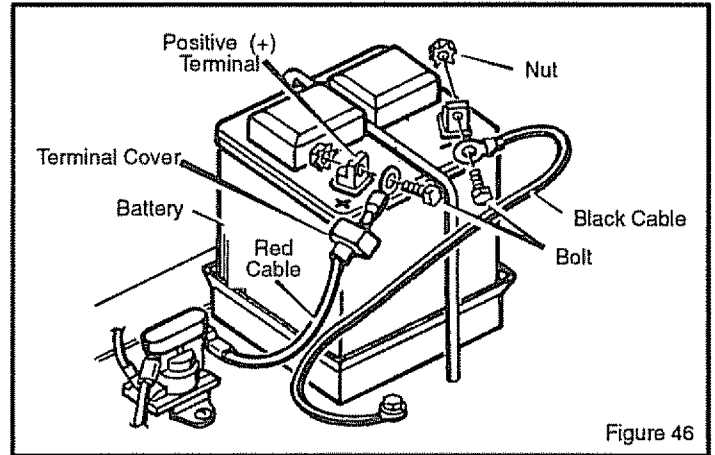

Figure 46
1. Remove the **black cable** from the negative (-) terminal (Figure 46).